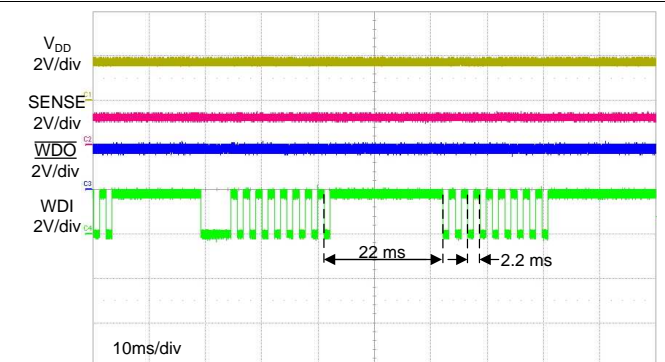

图 37. Window Watchdog Timing
In this application, the window watchdog timing options are based on the PWM signal that is provided to the TPS3850. A window watchdog setting must be chosen such that the falling edge of the PWM signal always falls within the window. A nominal window must be designed with $t_{WDL(max)}$ less than 5 ms and $t_{WDU(min)}$ greater than 5 ms. There are several options that satisfy this window option. An external capacitor can be placed on the CWD pin and calculated to have a sufficient window. Another option is to use one of the factory-programmed timing options, which ensures a $\pm 15\%$ accuracy from the nominal value. An additional advantage of choosing one of the factory-programmed options is the ability to reduce the number of components required, thus reducing overall BOM cost. Leaving the CWD pin unconnected (NC) with SET0 = 0 and SET1 = 1 produces a $t_{WDL(max)}$ of 2.2 ms and a $t_{WDU(min)}$ of 22 ms; see 图 37.